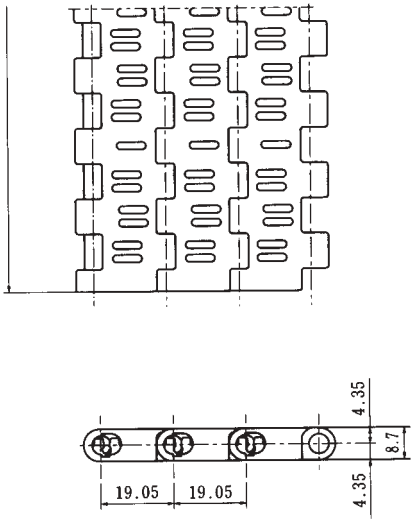

Figure 4.18 Bel-Top Chain Combines the Features of Chains and Belts
- (1) The chain consists of engineered plastic modular links with small pitch (19.05 mm) and pins. It combines the functions of a chain and belt (Figure 4.18).